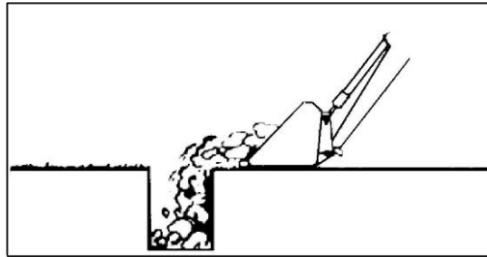

Fig 4.21. Dumping into a ditch.
- Leave dirt in the bucket because dumping on each pass wastes time shown in figure 4.21.